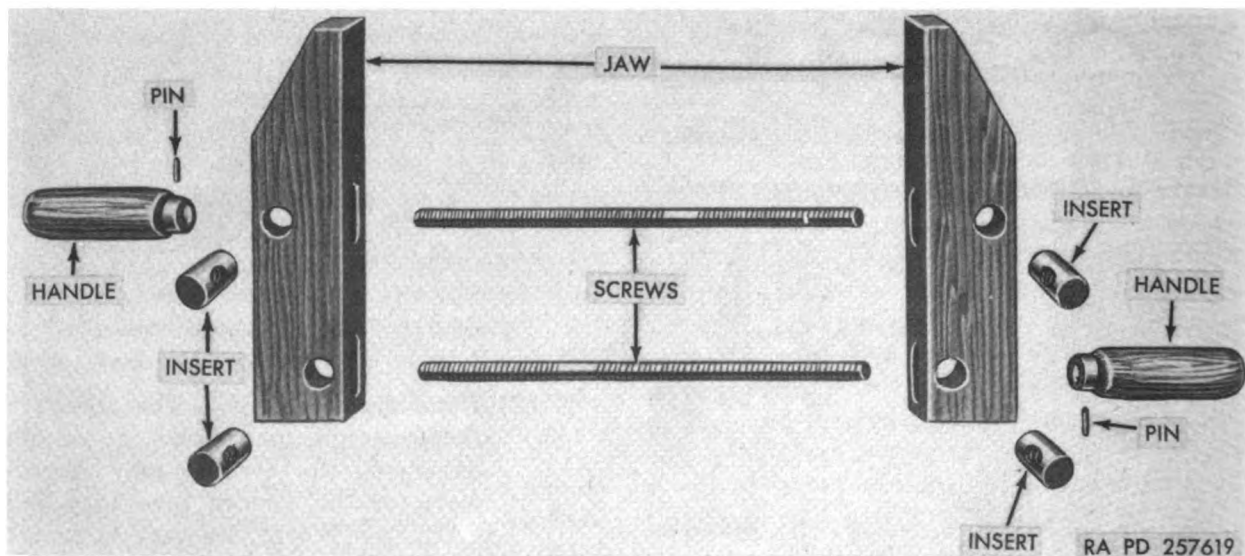

Figure 149. Hand screw clamp, exploded view.
- (2) *Hand screw clamps.* The screws of these clamps may break or become damaged, the inserts may become worn, or the wooden jaws may split or warp. When necessary to replace any of these parts, disassemble the clamp (fig. 149). Remove handles